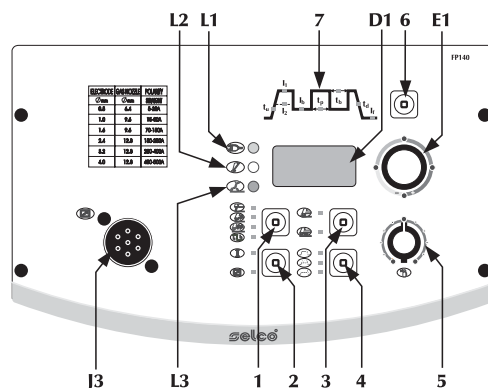

Fig.2
2.1.2 Främre kontrollpanel FP140 (Fig. 2)